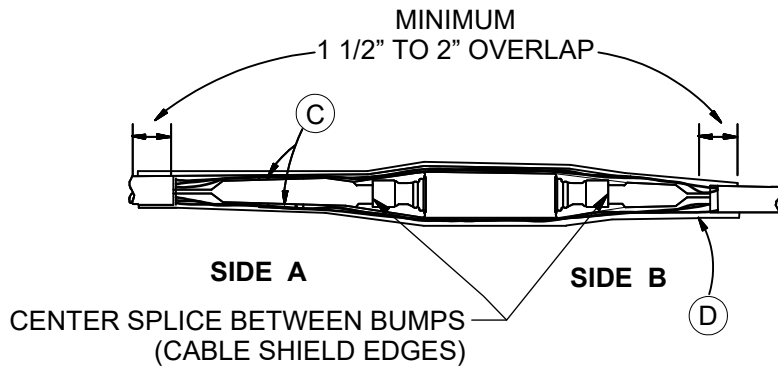

Figure 3
10. Lubricate insulation and semi-con shield of Cable B with silicone grease. Slide splice body onto Cable B and into final position over the connector. Use the bumps formed on the splice ends as guides for centering. See Figure 3.
11. Connect concentrics with two sleeves on Side A. Place five wires per side into each sleeve. Crimp the sleeves. Snug sleeves and wires tightly against splice and cable. See Figure 3.